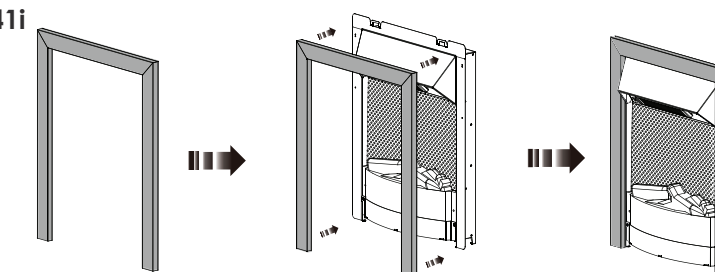

Fig.9
3. Line up the frame and appliance by slightly moving to left or right. (Fig.9)